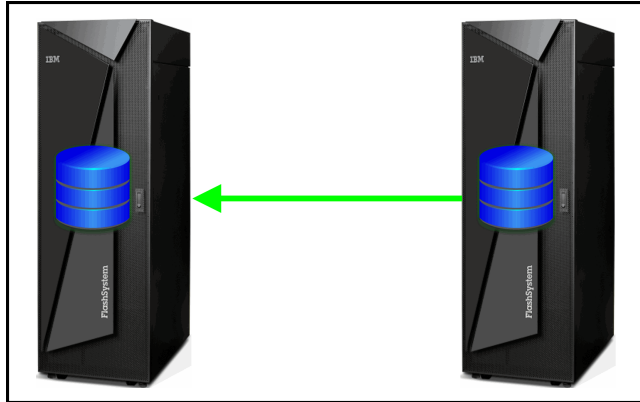

Figure 1-2 Copying changes back to production
During normal remote mirroring operation, one IBM FlashSystem A9000 or A9000R (at the DR site) is active as a mirroring target. The other IBM FlashSystem A9000 or A9000R (at the local production site) is active as a mirroring target only when it becomes available again after an outage and change of roles between the production and the DR site. Data changes made when production is running on the remote (DR) site are copied back to the original production site, as shown in Figure 1-2 on page 3.